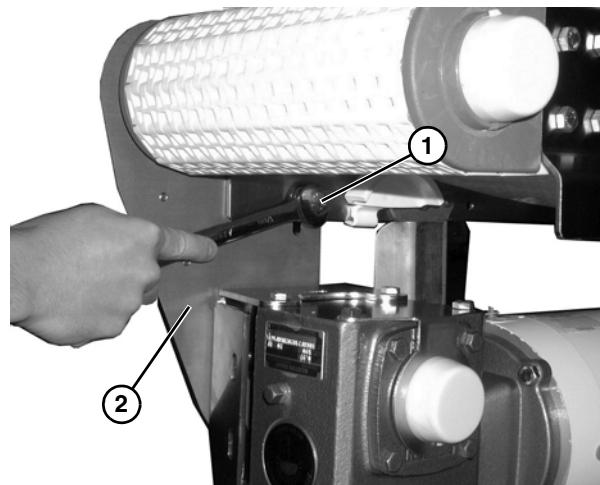

Figure 7
5. Insert bolt (Figure 7, item 1) through backside of conveyor into threaded hole in mounting bracket (Figure 7, item 2).